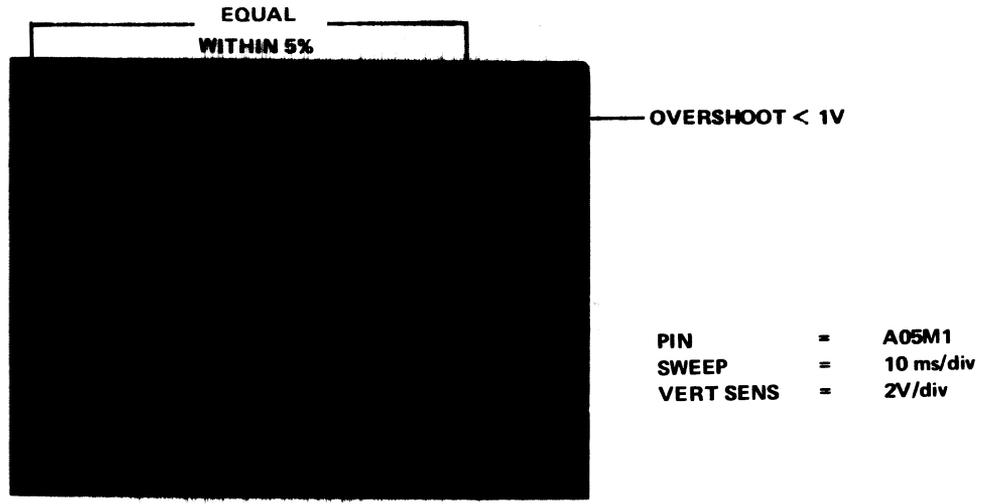

Figure 5-20 Full Stroke Position Waveform
- b. Set the scope vertical sensitivity to 2 V/div and observe A05M1 (SIN POSITION) for a scope display as illustrated in Figure 5-20. The waveform amplitudes at the start and end of the seek must be equal within 5%, and the overshoot at the end of the seek must not exceed 1 V. If overshoot is excessive, recheck the VA and the Acceleration (Positioner Current).